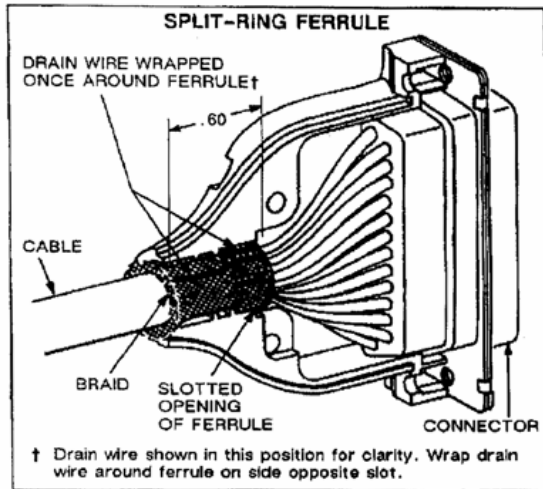

Fig. 6
5. ~~SPLIT RING FERRULE ASSEMBLY (Figure 6)~~
2. ~~Strip cable jacket from end of conductors. Take care not to nick or cut braid. Refer to the chart in Figure 6 for the cable jacket strip length for HD-20 and HD-22 connectors.~~